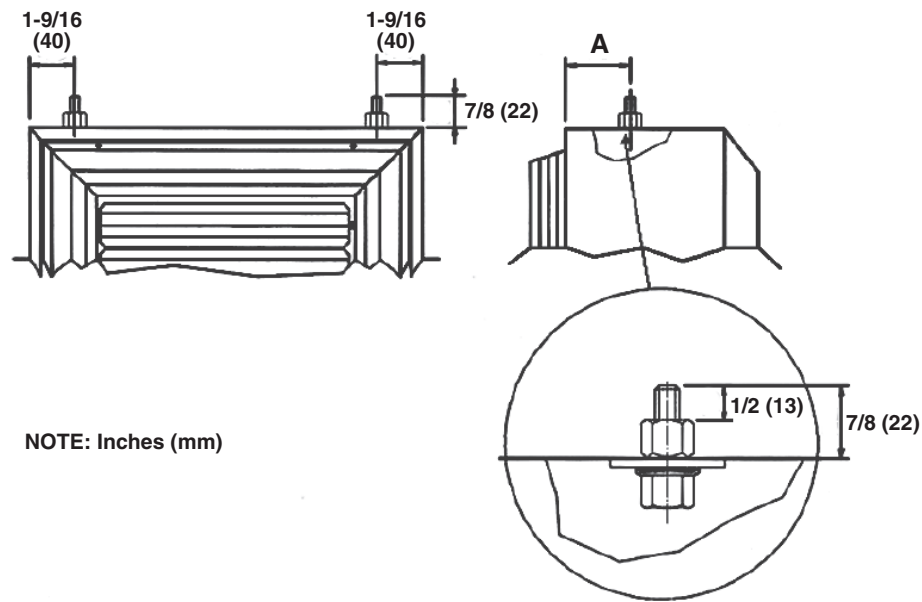

Figure 6. Suspending Heater for Horizontal Discharge (Refer to Table 6)
1. Install field-supplied threaded rods or eyebolts as shown in Figure 6.
*See Figure 6.